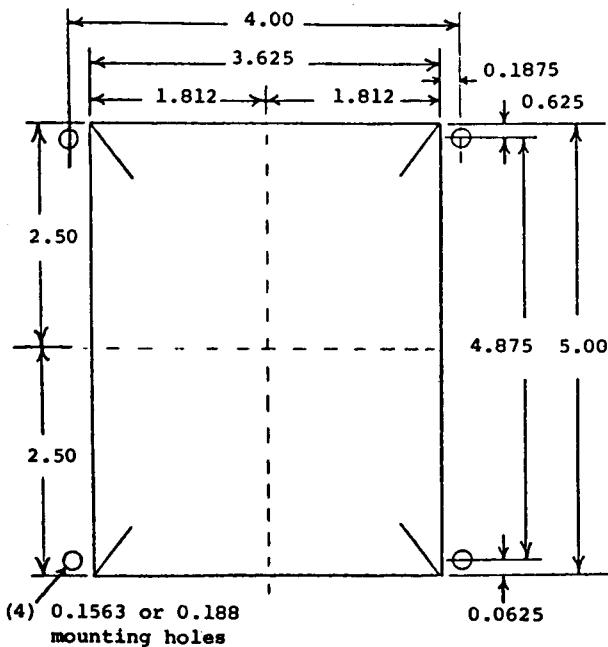
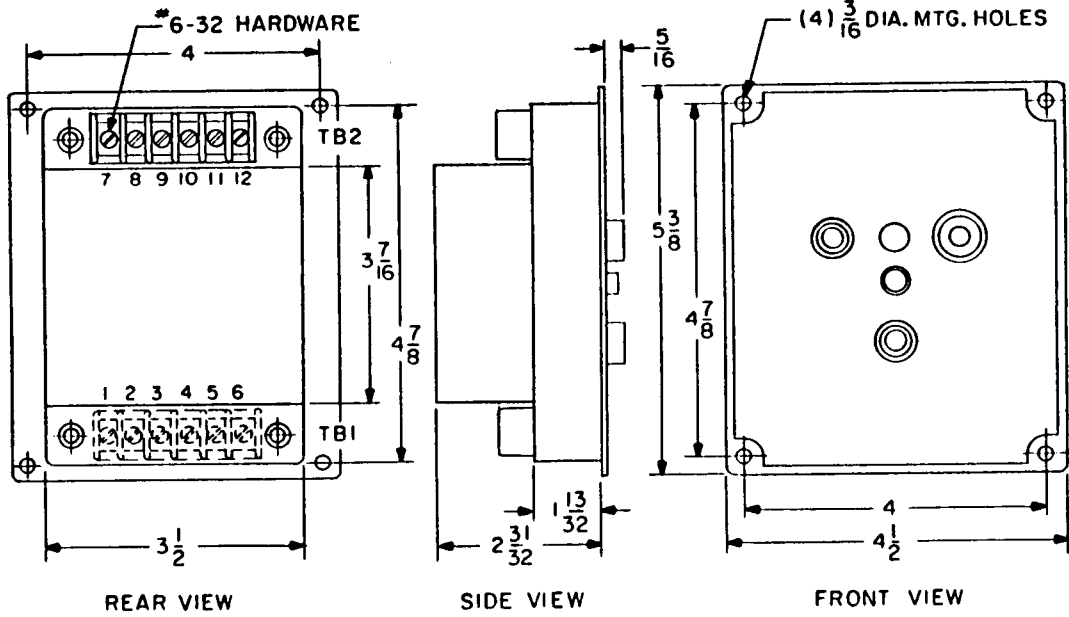
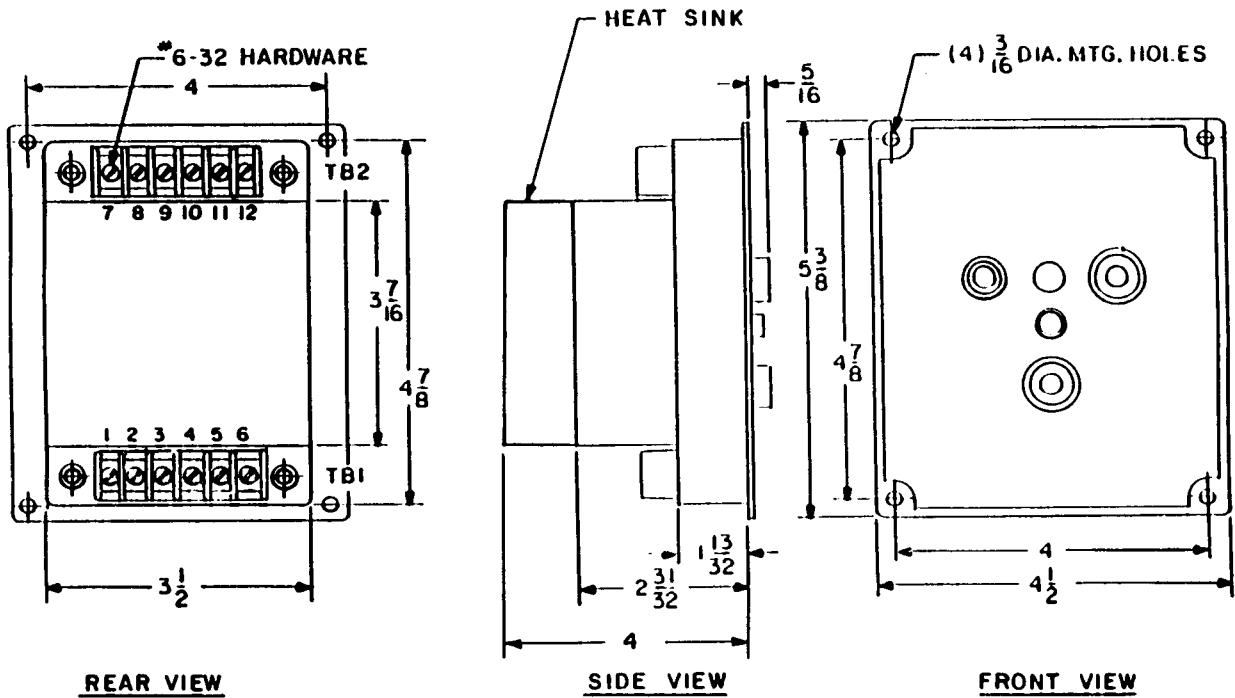

Fig. 1: Panel Cutout for FLUSH MOUNTED MONITOR (dimensions in inches)
FIGURE 2A: TMC MONITOR OUTLINE
FIGURE 2B: TMS MONITOR OUTLINE
The panel drilling and cutout information is given in Figure 1. A rectangular panel cutout and (4) mounting holes are required. The outline of the Type TMC is shown in Figure 2A, and the Type TMS is shown in Figure 2B.